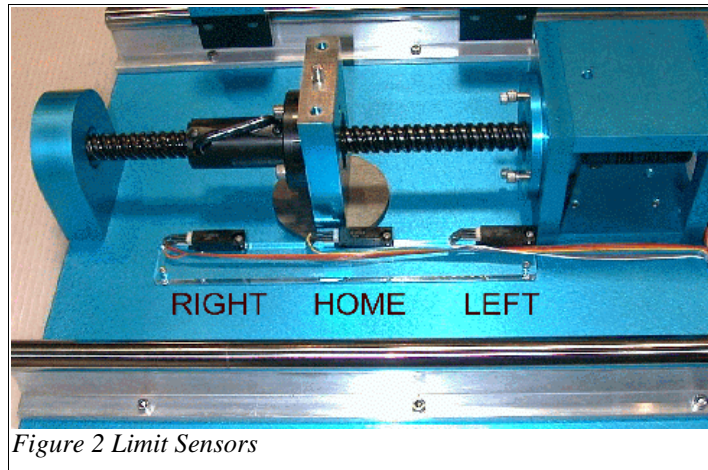

Figure 2 Limit Sensors
1. Processing of the limit sensor signals. End of travel limit sensors (either *Left* or *Right*) disable the amplifier when in the *OK* and *Enable* mode. The only way to reset the amplifier is then to trigger the *Home* proximity sensor by manually moving the table back to its mid-stroke position. The limit sensors attached to the shake table are shown in Figure 2 when the table cover is removed.